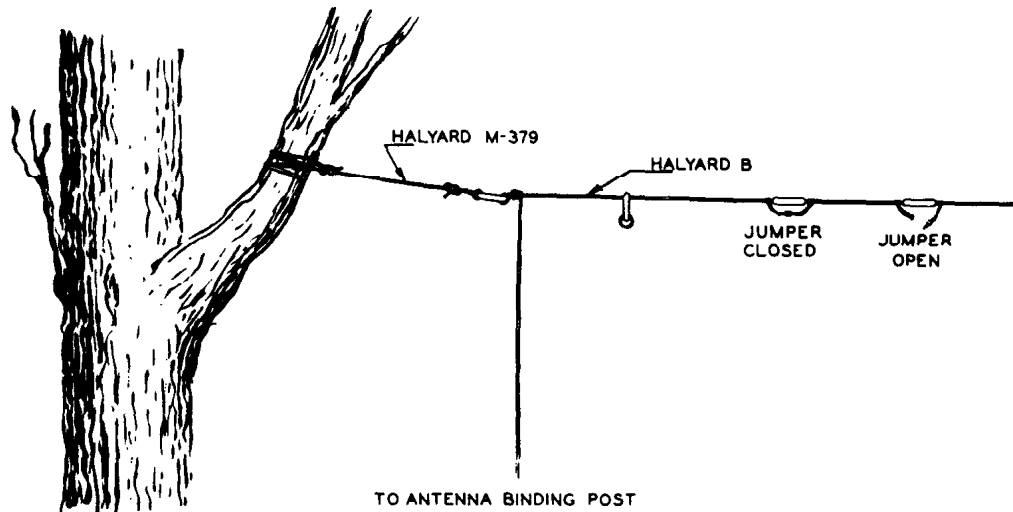

Figure 20. Antenna supports and connections.
*c.* Connect Antenna AT-101/GRC-9 to its support by means of Halyard M-379 as shown in figure 20.